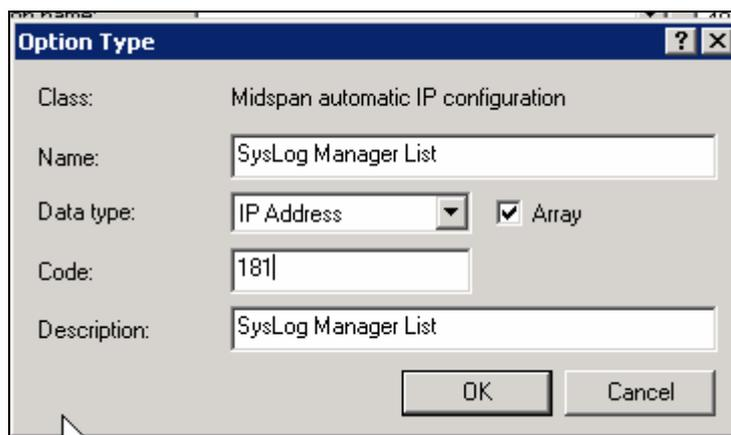
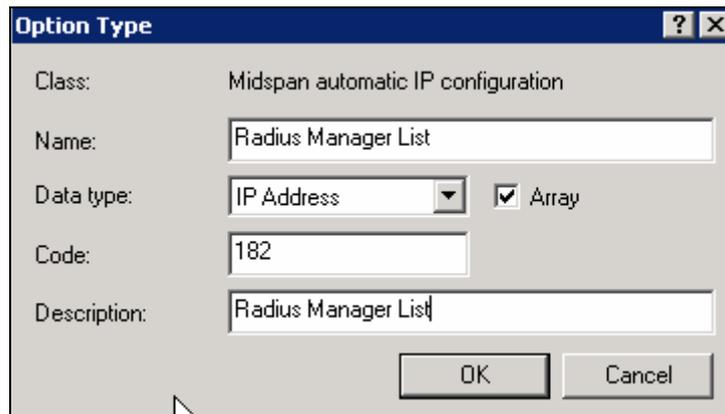

Figure 4-28: SysLog Option Type
Figure 4-29: RADIUS Option Type
- Repeat the same procedure to create the SysLog Manager List and Radius Manager List Option Type (Figure 4-28 and Figure 4-29).